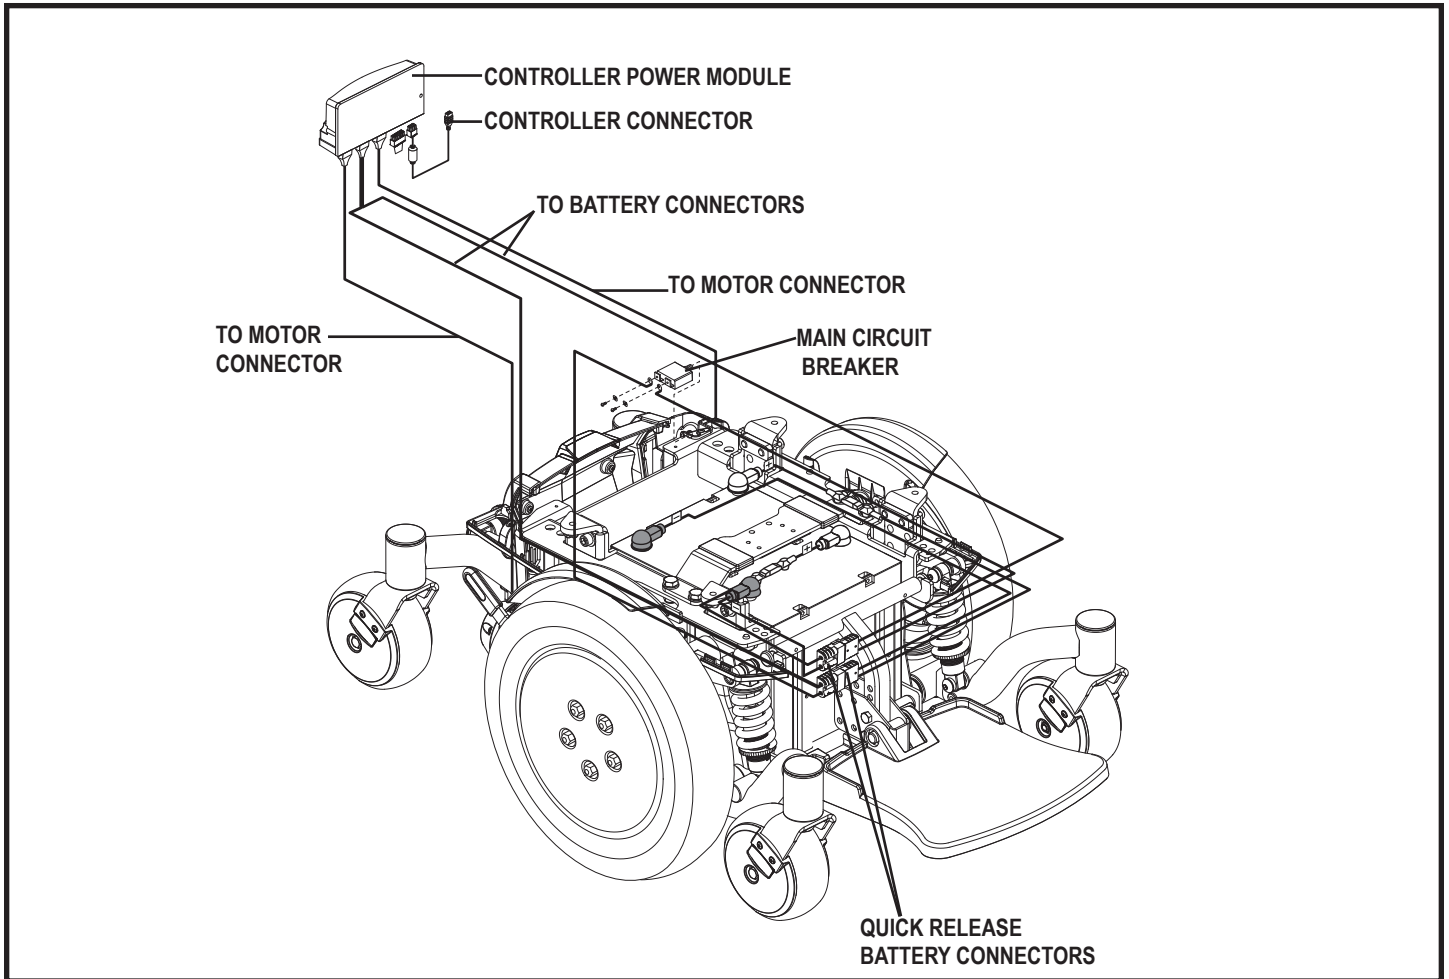

Figure 3. Jazzy® 600 ES Electrical Components
The electrical components consist of the controller assembly, the batteries, and the motors. The batteries, motors, and controller power module (if equipped) are located on the power base assembly. The controller is located on the seat assembly. Connectivity between the controller and the motors, batteries, and the battery charger is provided by one or more wiring harnesses. **See figure 3.**
5. Plug the controller connector into the rear of the power base. See figure 3.
4. Plug the controller connector into the power base. See figure 3.
3. Unplug the controller connector(s) from the power base. See figure 3.